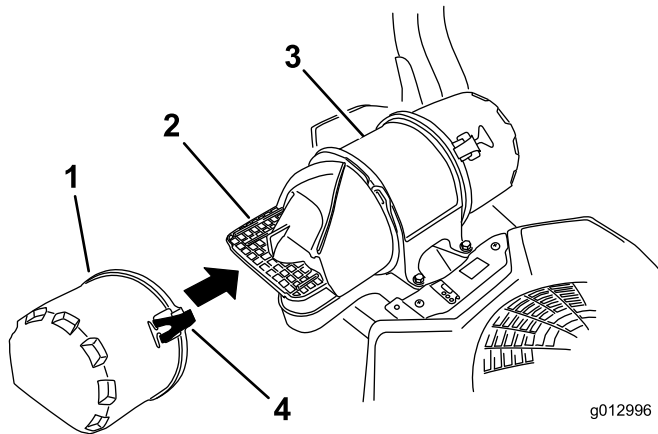

Figure 61
3. Release the latches on the air cleaner and pull the air-inlet cover off the air-cleaner body (Figure 61).
5. Install the air-inlet cover and secure it with the latches (Figure 61).